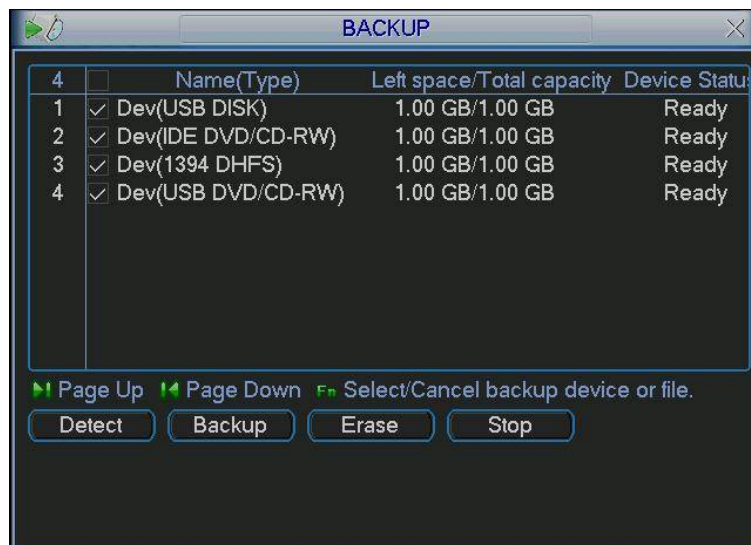

Figure 4-27
- PTZ activation: Here you can set PTZ movement when alarm occurs. Such as go to preset, tour& pattern when there is an alarm. Click "select" button, you can see an interface is shown as in Figure 4-27.
Click backup button, you can see an interface is shown as in Figure 4-27. Here is for you to view devices information.